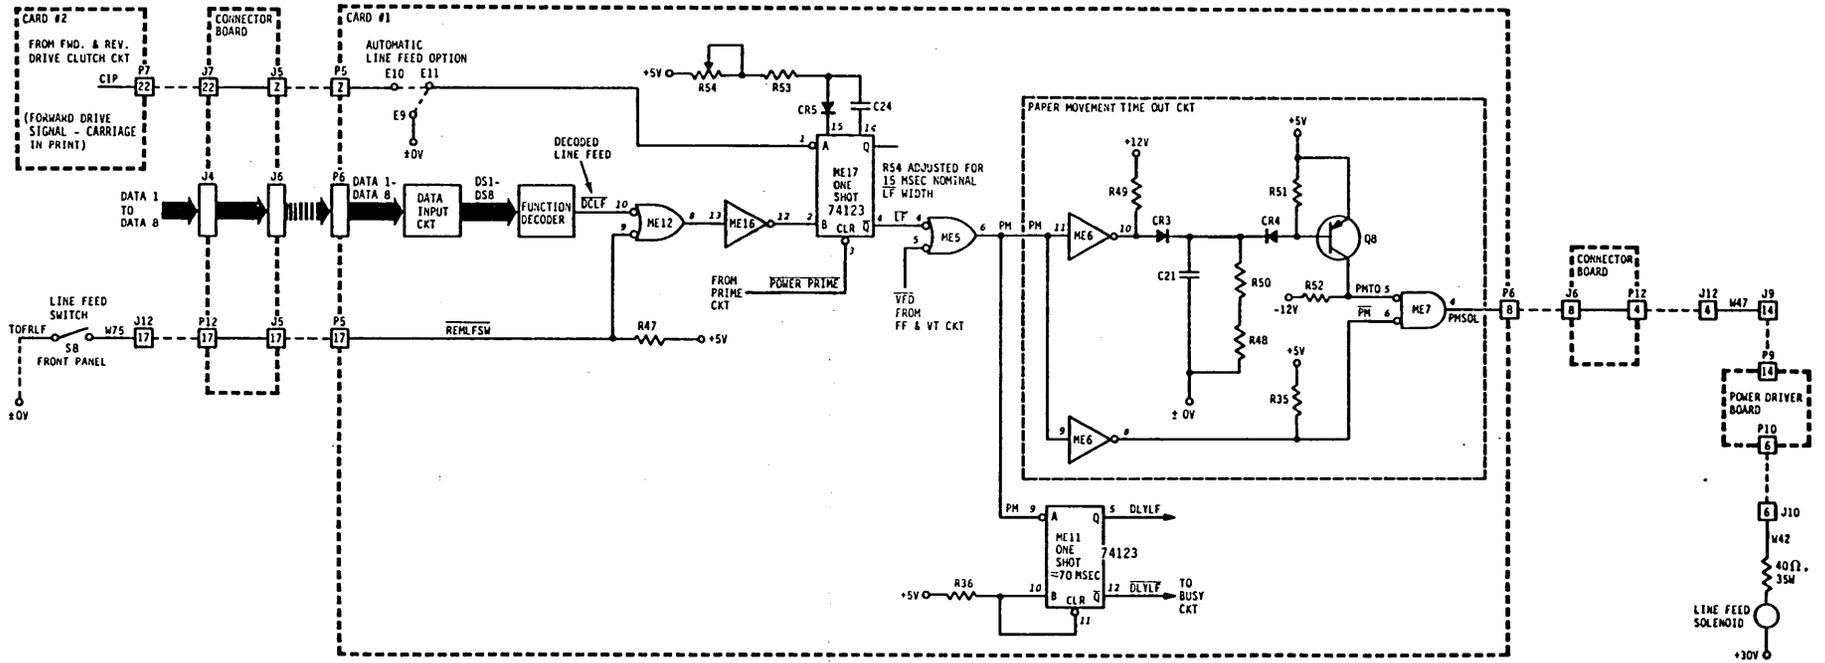
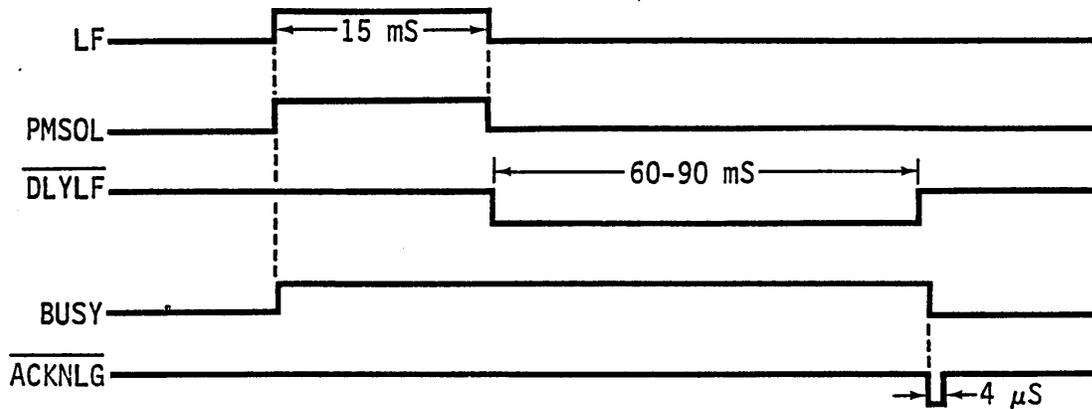

Figure 4-21. LINE FEED CIRCUIT
Figure 4-22. LINE FEED TIMING
4.6.1 LINE FEED (Figure 4-21, Circuit; Figure 4-22, Timing)
4.6.5 PAPER TIME OUT CIRCUIT (Figure 4-21)